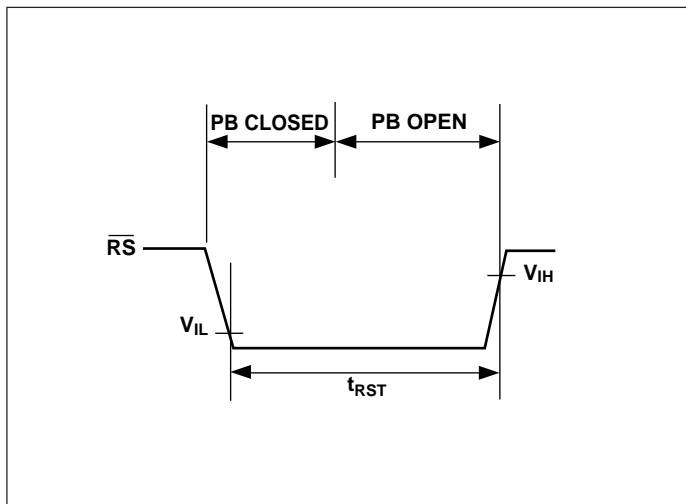

Figure 2.  $\overline{RS}$  Pulled Low by Push-button Reset
A built-in debounce circuit allows a push-button switch (PB) or other electronic signal to be wire-ORed to this pin as an external  $\overline{RESET}$  override control. The external  $\overline{RESET}$  is required to be an active low signal. Internally, this input is timed to provide a minimum  $\overline{RESET}$  pulse width of 500msec. Reference Figure 2.